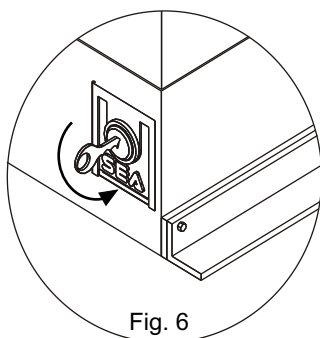

Fig. 6
- Put the key in and turn it to open the small door which protects the plastic handle (Fig. 6).